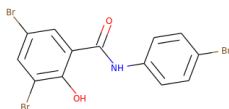

Figure 1: Chemical structure of OC1=C(Br)C=C(Br)C=C1C(=O)NC2=CC=C(Br)C=C2
**SMILES** (Simplified molecular-input line-entry system) represents a chemical as a string. Given a SMILES, we could reconstruct the chemical structure. For example, given OC1=C(Br)C=C(Br)C=C1C(=O)NC2=CC=C(Br)C=C2, we could construct the chemical as seen in Figure 1.